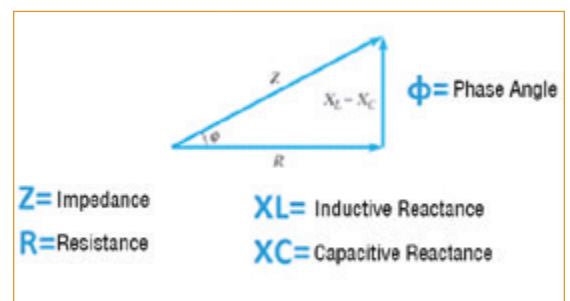

FIGURE 1. The resistance/impedance relationship.
Ohm's law redux. We describe resistance using its complex definition: impedance. Impedance is simply the combination of resistance (R), which we know from DC analysis, and reactance. Reactance has both an inductive component, which resists changes in current, and a capacitive component, which resists changes in voltage. In combination, they don't reduce the voltage available at the load pins as we saw with DC losses, but rather they act to restrict or impede the responsiveness to the burst demands we described (FIGURE 1). With the effects of reactance altering the timing as opposed to the amplitude of a power signal, we describe this behavior in terms of the effect on a sine wave, essentially advancing or retarding the signal and quantify it using degrees.